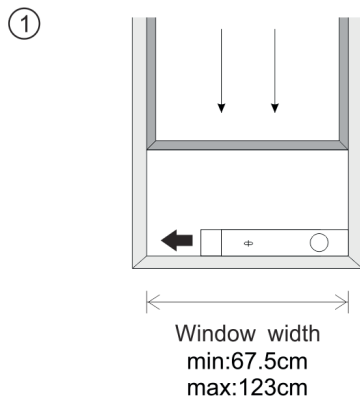

Fig. 5
The installation manner of window slider kit is mostly in “horizontal” or “vertical”. As shown Fig.5 and Fig.5a, check the min. and max. size of the window before the installation.
1. Install the window kit on the window (Fig.5, Fig.5a);